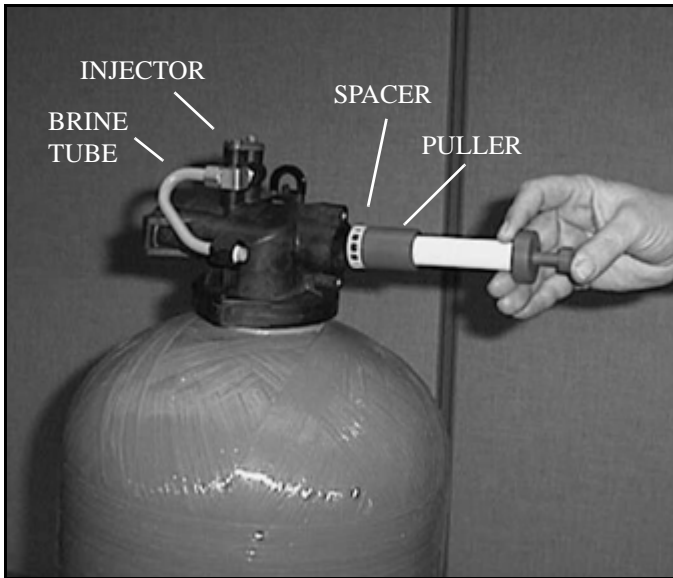

Figure 3 *Removing Spacer From Valve Body*
8. Insert the pin end of the spacer tool into the valve body with the pins retracted (button pulled back). Push the tool tight against the spacer and push the button in, (see Fig. 3). When the button is pushed in, the pins are pushed out to engage the 1/4 dia. holes in the spacer. Remove the tool from the valve body. The spacer will be on the end. Pull the center button back, the pins will be retracted and the spacer can be removed from the spacer tool.